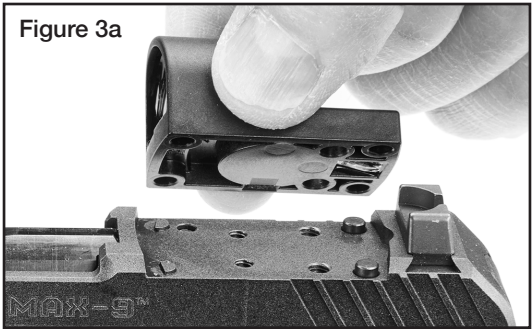

Figure 3a
4. Place the READYDOT™ onto the empty optics mount, ensuring alignment with the mounting pins and holes. Be careful to make certain the READYDOT™ is sitting flush with the slide before loosely tightening the two provided M4x0.7 8mm screws; tightening the screws if the READYDOT™ is not flush may cause damage to the sight's housing. (See Figures 3a & 3b.)